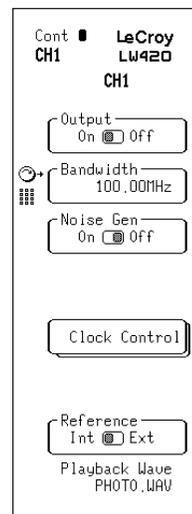

Figure 13.1
1. Press the **CHAN1** button on the front panel to access the **CH1** menu—figure 13.1.